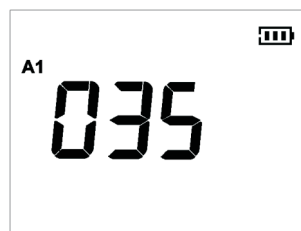
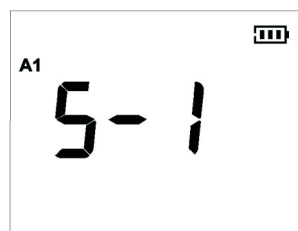

Fig. 4
Fig. 5
(1) Check alarm point
Long press [HOLD] button to enter A1 setting and current value will be shown (see Fig.4), press [SET] again to check current set value of the next parameter (A2/TWA/STEL). Press switch ① to exit current alarm point setting.
(2) Setting of low alarm point A1
Long press [HOLD] button to enter the A1 settings, LCD shows A1 icon and its current set value is flashing (see Fig. 4), the value can be adjusted by ▲ and ▼ button, and long press [SET] button to save the newly set value. "S-1" will be shown on the screen if the value is saved successfully (see Fig. 5).
icon and its current set value is flashing (see Fig. 4), the value can